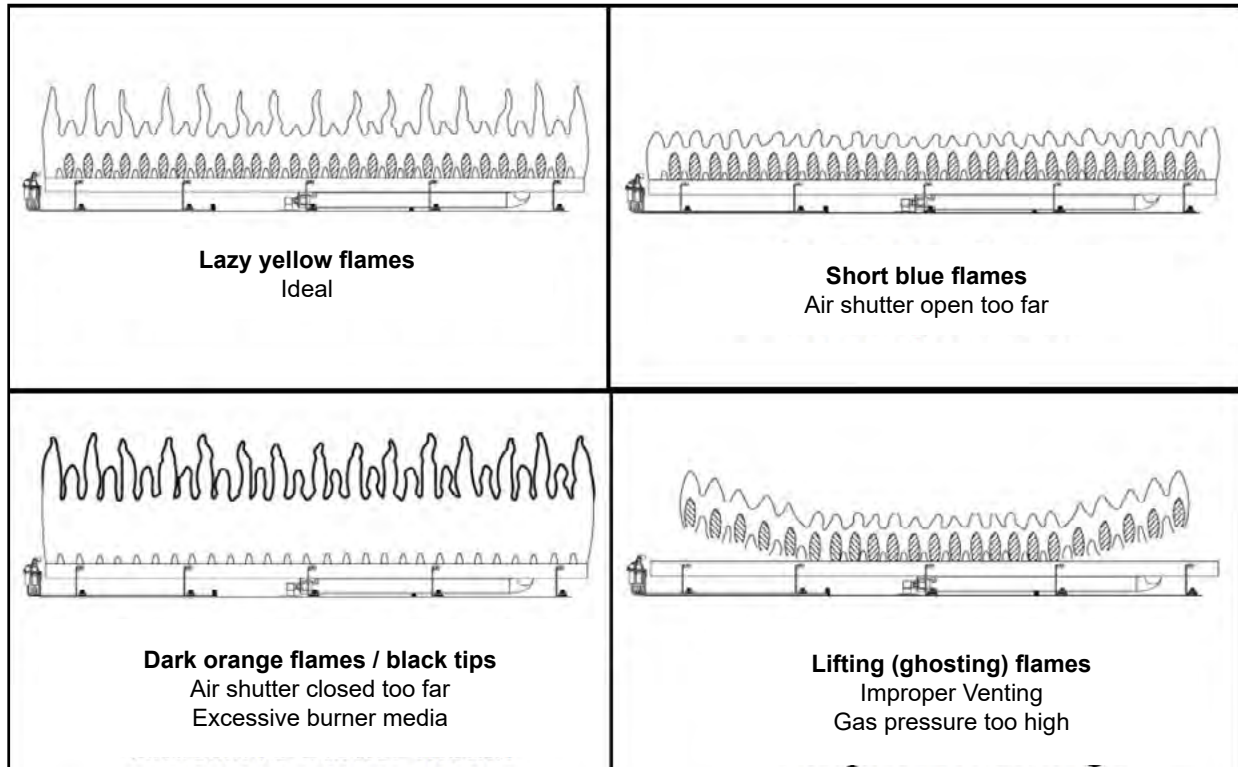
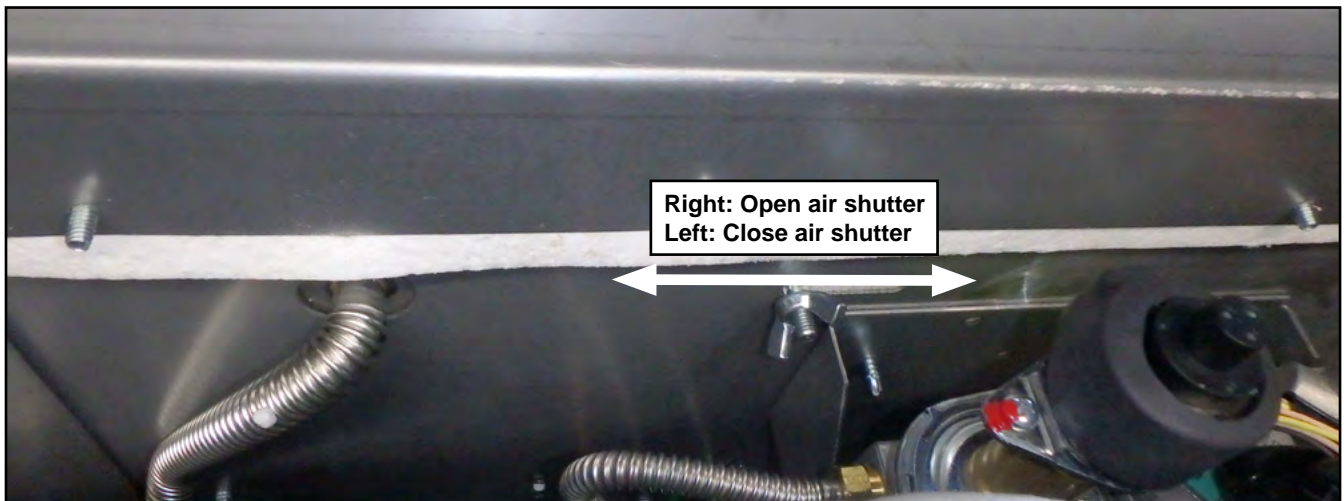

Figure 20.5.01:
Figure 20.5.02:
- Inspect and ensure the lighting of the main burner occurs within 4 seconds of the main gas valve opening. Flames should match those shown in **Figure 20.5.01**
The 22-DVIE22LN-1 includes an air shutter located underneath the firebox of the fireplace which may be used to adjust the primary air to achieve the ideal flame as shown in **Figure 20.5.01**. To adjust, loosen the wing nut securing the air shutter in place as shown in **Figure 20.5.02**. To open the air shutter and increase air flow to the burner, pull the adjuster to the front of the fireplace. To close the air shutter and decrease air flow to the burner, push the adjuster to the back of the fireplace.